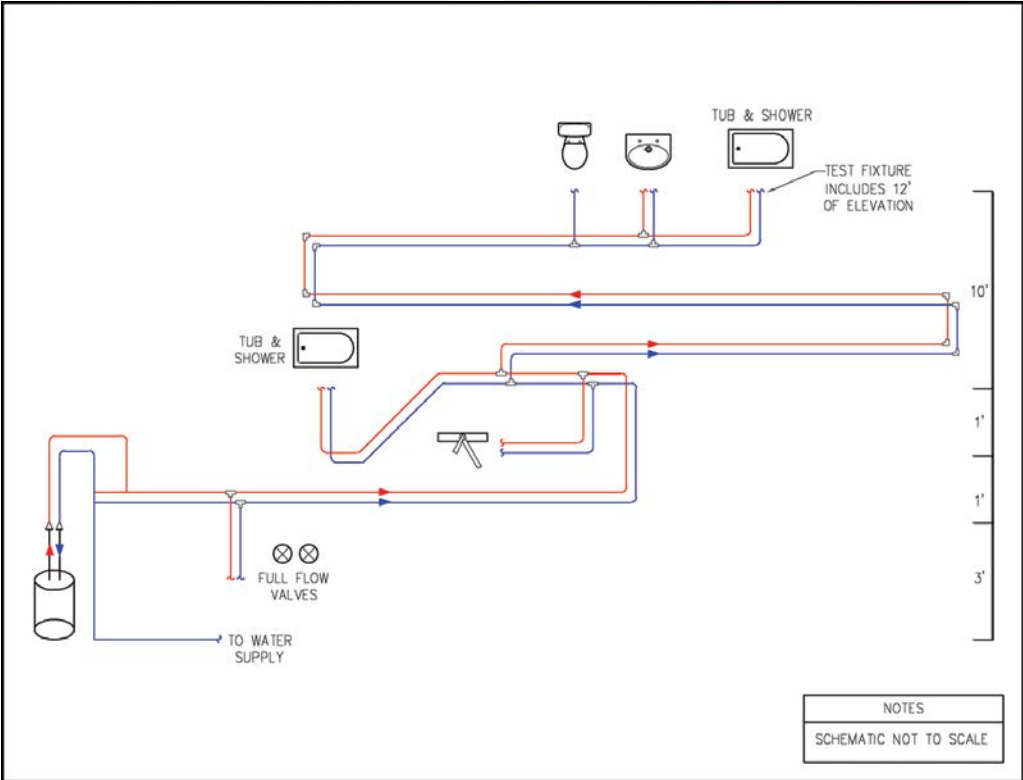
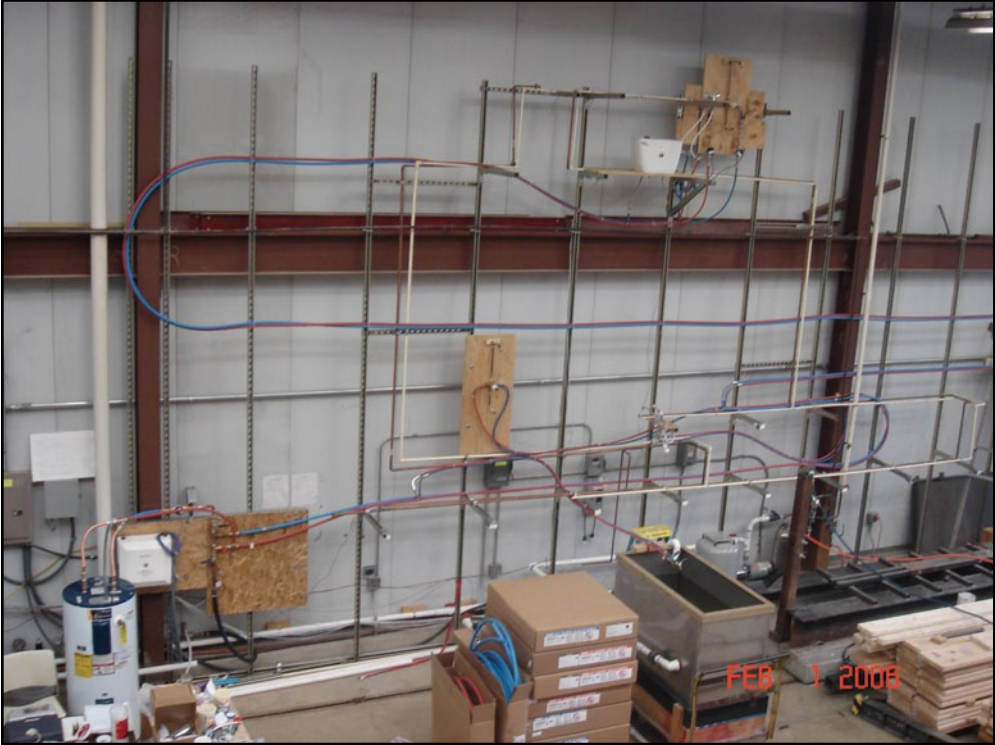
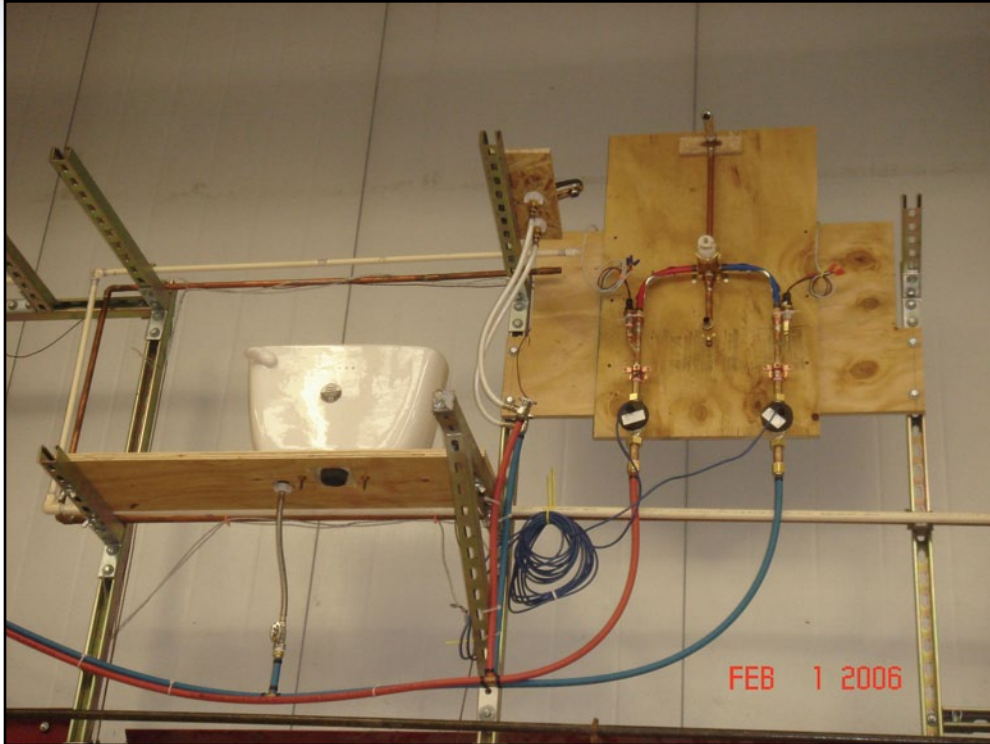

Figure 8.1 – Fixture Layout for Laboratory Testing
Figure 8.2 – Laboratory Test Set-up with Five Outlets, Hot Water Tank, and T&B System
Figure 8.3 – The Test Fixture (Shower) with Flow and Pressure Sensors Installed
A set of plumbing fixtures were installed in a laboratory setting to provide actual flow and pressure data during operation of the fixtures. These data provide assurance that the PEX plumbing system design is capable of supplying the required flow rates during operation of the fixture. In addition, the test results provide assurance that the plumbing system design will supply adequate flow and pressure to a remote test fixture while other fixtures are operated simultaneously. The test system was constructed and reconfigured for each type of PEX plumbing design, including the standard trunk and branch (T&B), the parallel (HR), and the zone (RM). A primary Test Fixture (TF), represented by a tub/shower unit, was installed and instrumented to measure flow rate and flow pressure on the hot and cold lines, as well as mixed water temperature. Figure 8.1 shows the laboratory system diagram for the T&B system. Other test system designs are shown in Appendix A. The TF was located the farthest from the source of all the fixtures, and was operated in shower mode during all tests. The operating performance of this test fixture represents the “worst case” characteristics of the full system, since all other fixtures were closer to the source. Figure 8.2 shows the laboratory set-up configured with the fixtures and the T&B system design with 100-foot distance to the TF. Figure 8.3 shows the TF with the sensors for pressure and flow installed.